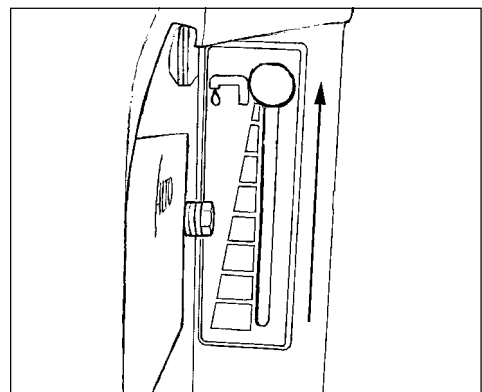

Figure 50
3. Close the solution flow valve by sliding it to its up most position (see figure 50).